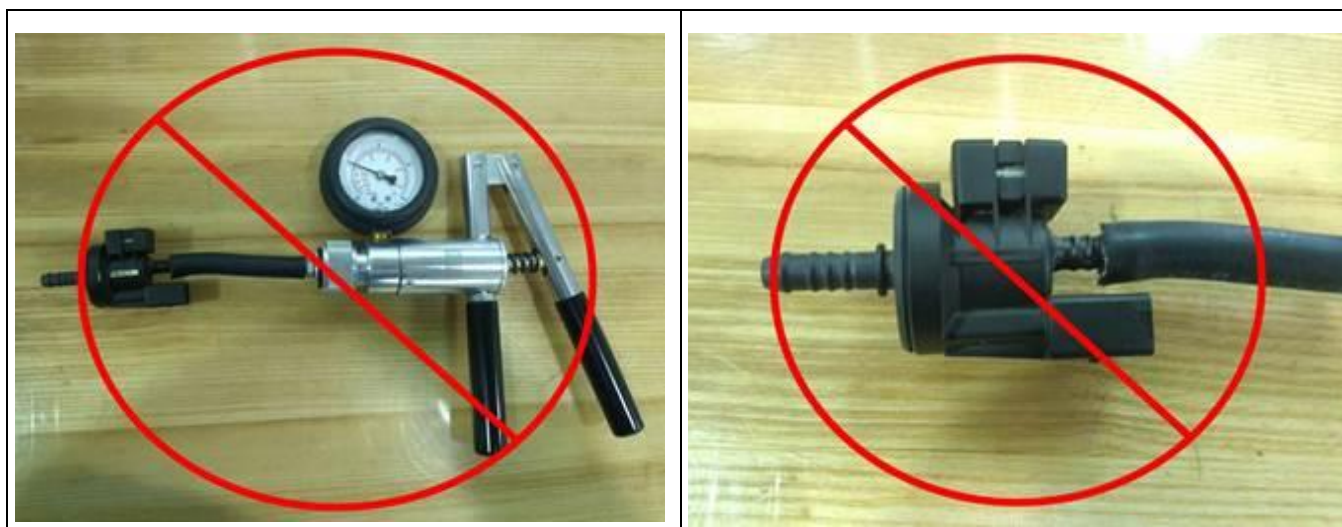

Figure 9
- Incorrect Installation of VAS6213 vacuum pump on the Canister Purge Valve (N80). This will create a false leak resulting in unnecessary replacement (Figure 9, Bosch valve shown below).